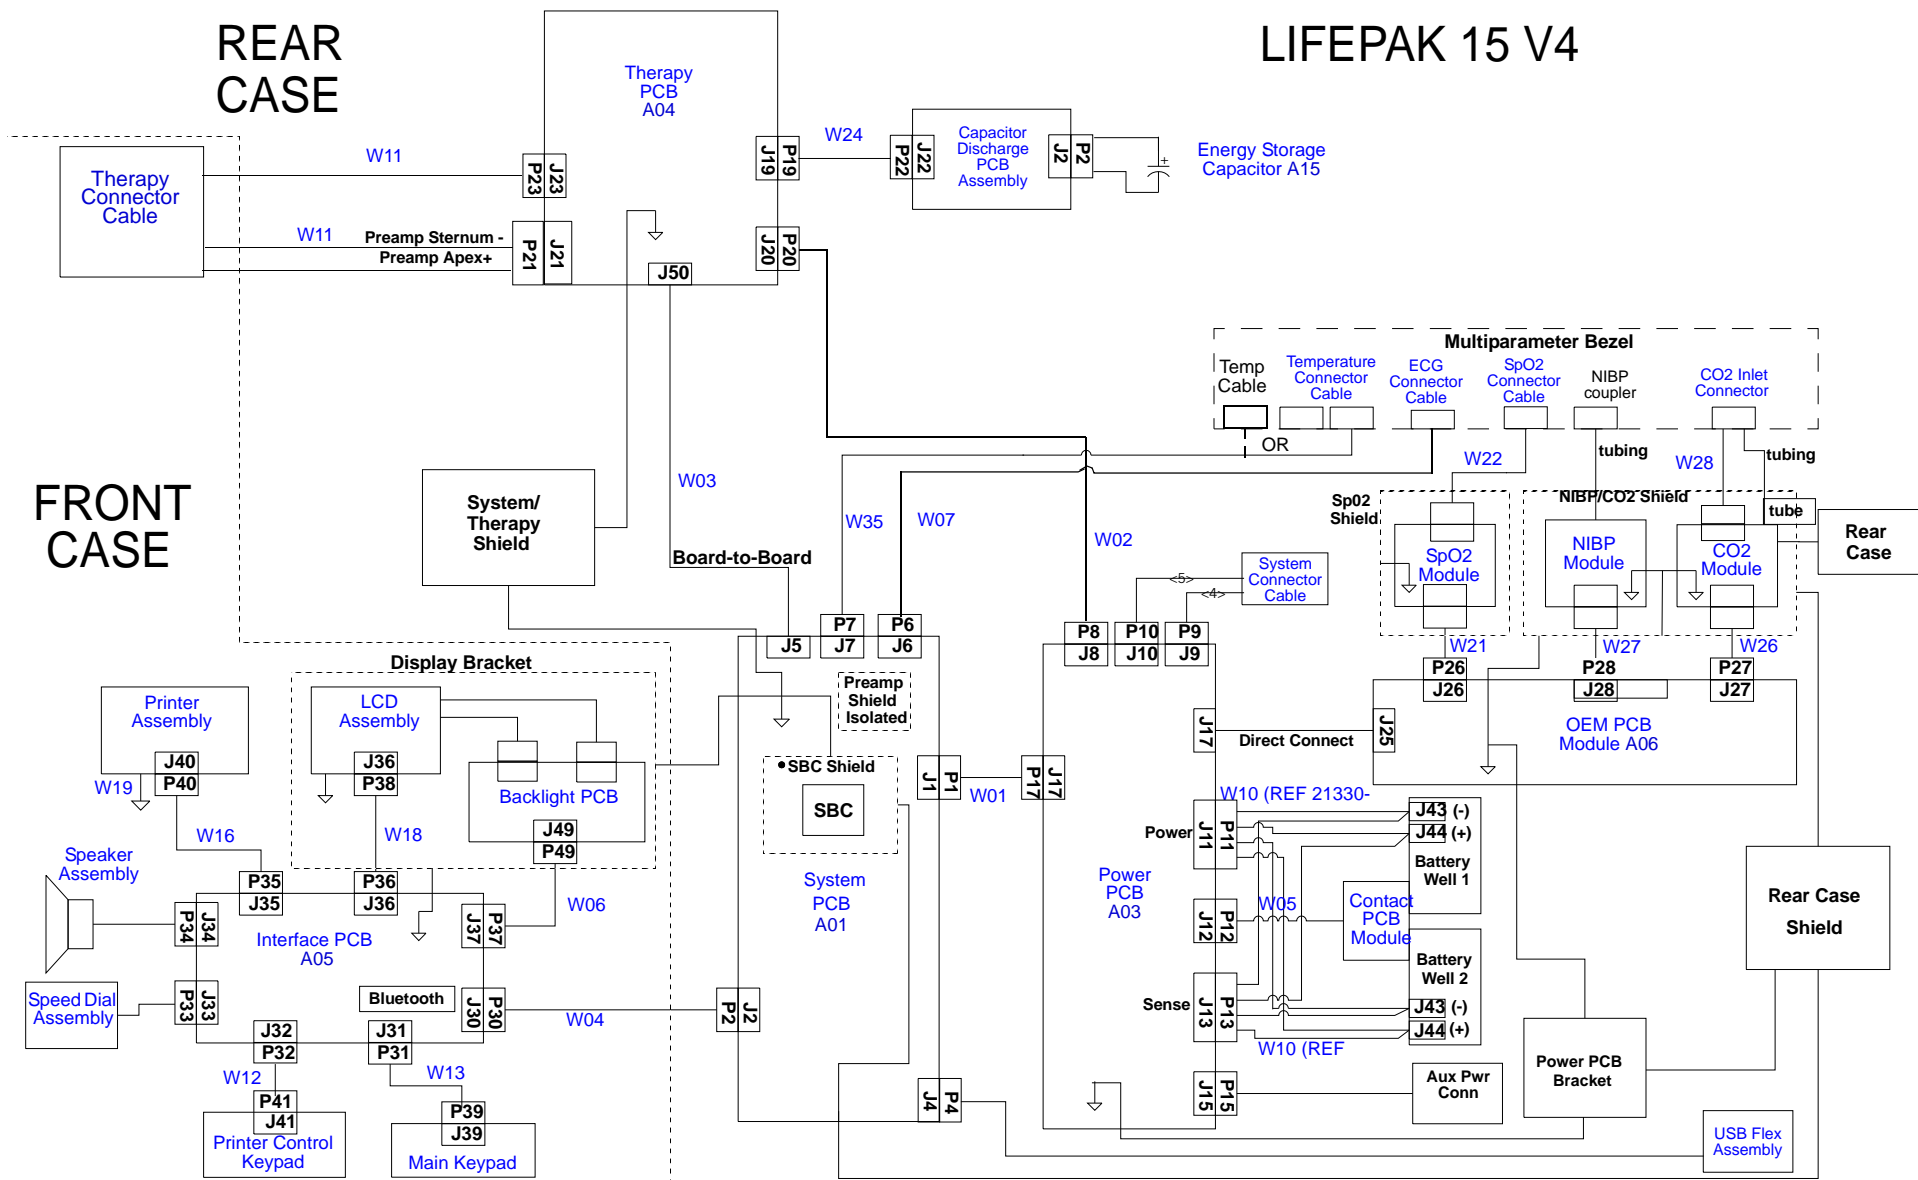

Figure 9.2— Interconnect diagram with detailed assembly, cable interconnect information, and links to each part diagram with power PCB (REF 21330-001531).
- Interconnect Diagram (Figure 9.2 on p. 356)—shows detailed assembly and cable interconnect information and provides links to each part diagram.